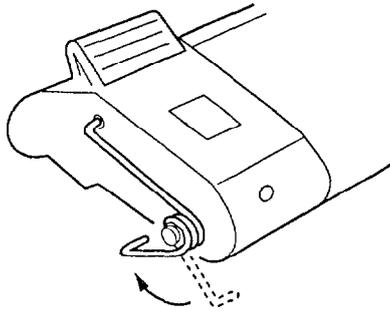

图 1
- 8 Disconnect the connector(N) of opposite side.
- 10 Bend both ends spring as shown in the figure and fit the shaft side frame hole and then tighten screws temporarily(both side). fig 1
- 4 Remove the Spring(E) and remove the Hook A(F)(drive side).